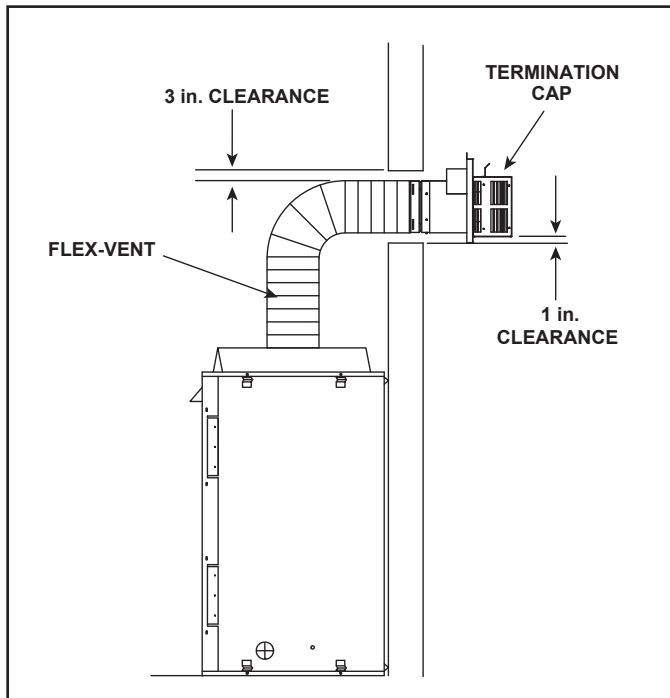

Figure 4.8 Flex Vent Pipe - Generic Fireplace Shown
A support is required at each change in venting direction, and in any location where it is necessary to maintain the necessary clearance to combustibles. A simple “up and out” installation (Figure 4.8) requires only enough support to maintain the necessary clearance to combustibles. However, the vent attachment point and the firestop location are considered to be supports.
**Note:** There **MUST** be a 25% reduction in total H when using flex vent except when using the simple up and out installation. See Figure 4.8.
**Note:** There MUST be a 25% reduction in total H when using flex vent except when using the simple up and out installation. See Figure 4.8.